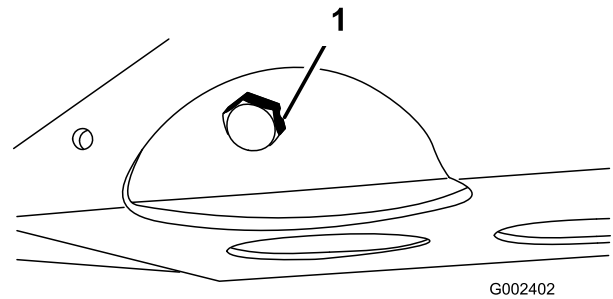

Figure 36
- Remove the drain plug from the engine and let the oil flow into a drain pan (Figure 36).
- When the oil stops draining, install the drain plug (Figure 36).
- Align a drain pan below the drain plug for the engine (Figure 36).